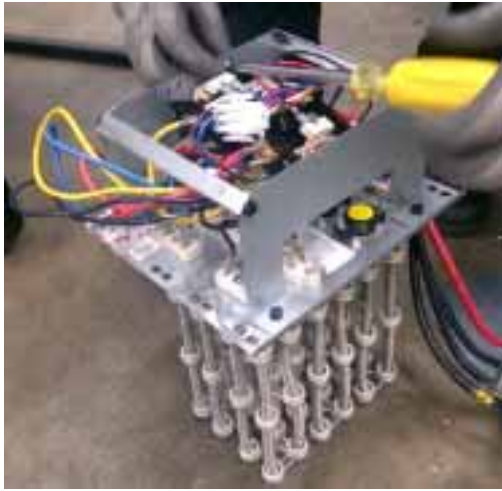

Figure 4
7. Remove screws attaching the contactors (quantity 2) to horseshoe contactor bracket (Figure 4).